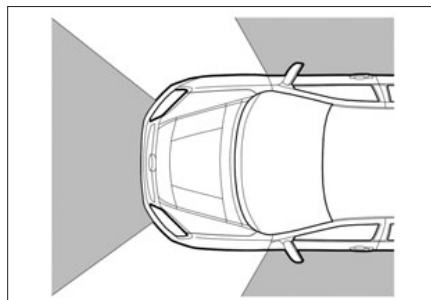

Fig. 15a. ABS coverage and actuating zone (highlighted in colours)
- in the coverage areas shown in Figure 15a.